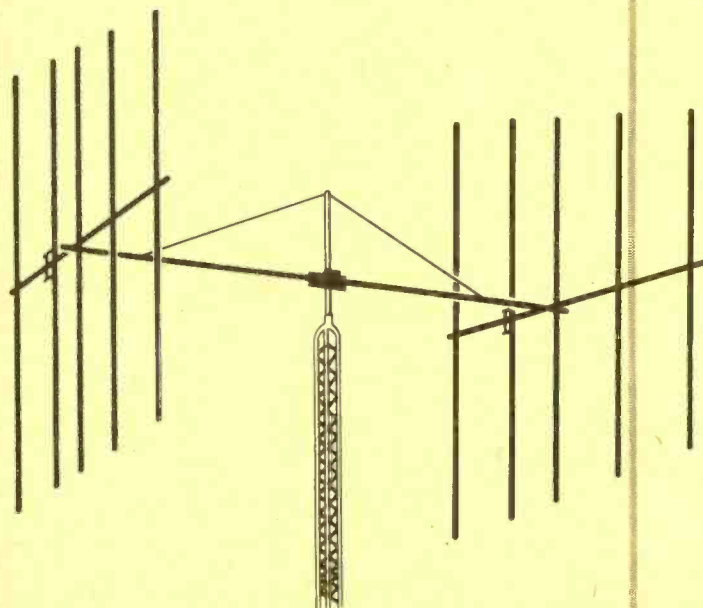

Fig. 13. Stacking two beams in the same plane yields a 3-dB increase in gain.
**Stacking.** Effective radiated power can be doubled (an additional 3-dB gain) if directional antennas are "stacked." Figure 13 shows a "king-size" antenna system composed of two stacked 5-element beams. (Note that both